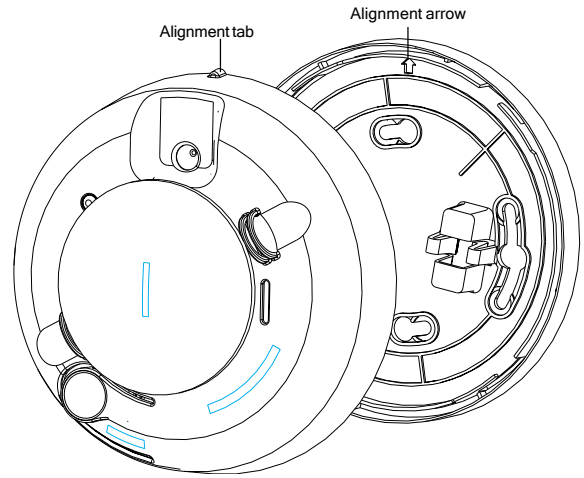

Figure 4 - Smoke Detector-to-Base Alignment
- Line up the raised alignment tab on the lip of the detector with the arrow on the mounting base. See Figure 4.